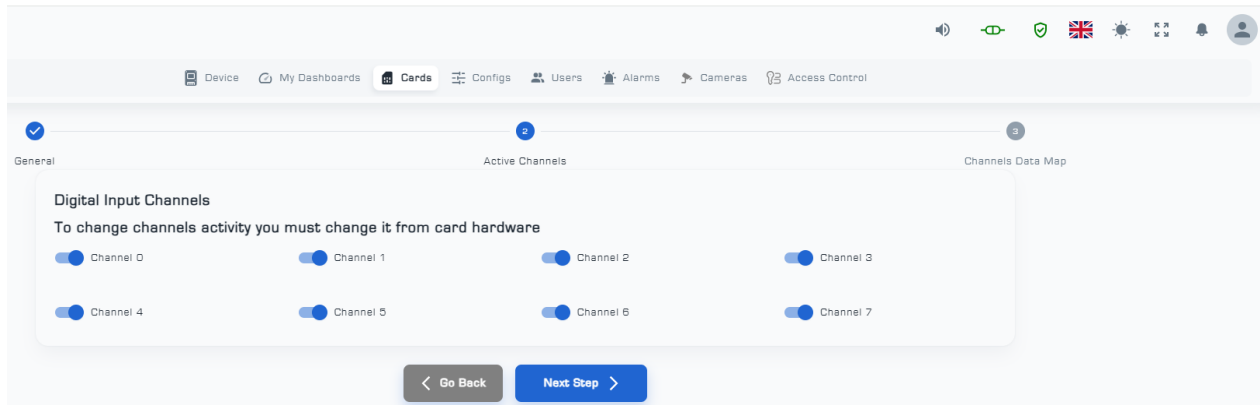

Figure 6: Active Channels Page from Config Menu
- Active Channels displays the list of active and inactive channels (Figure 6).